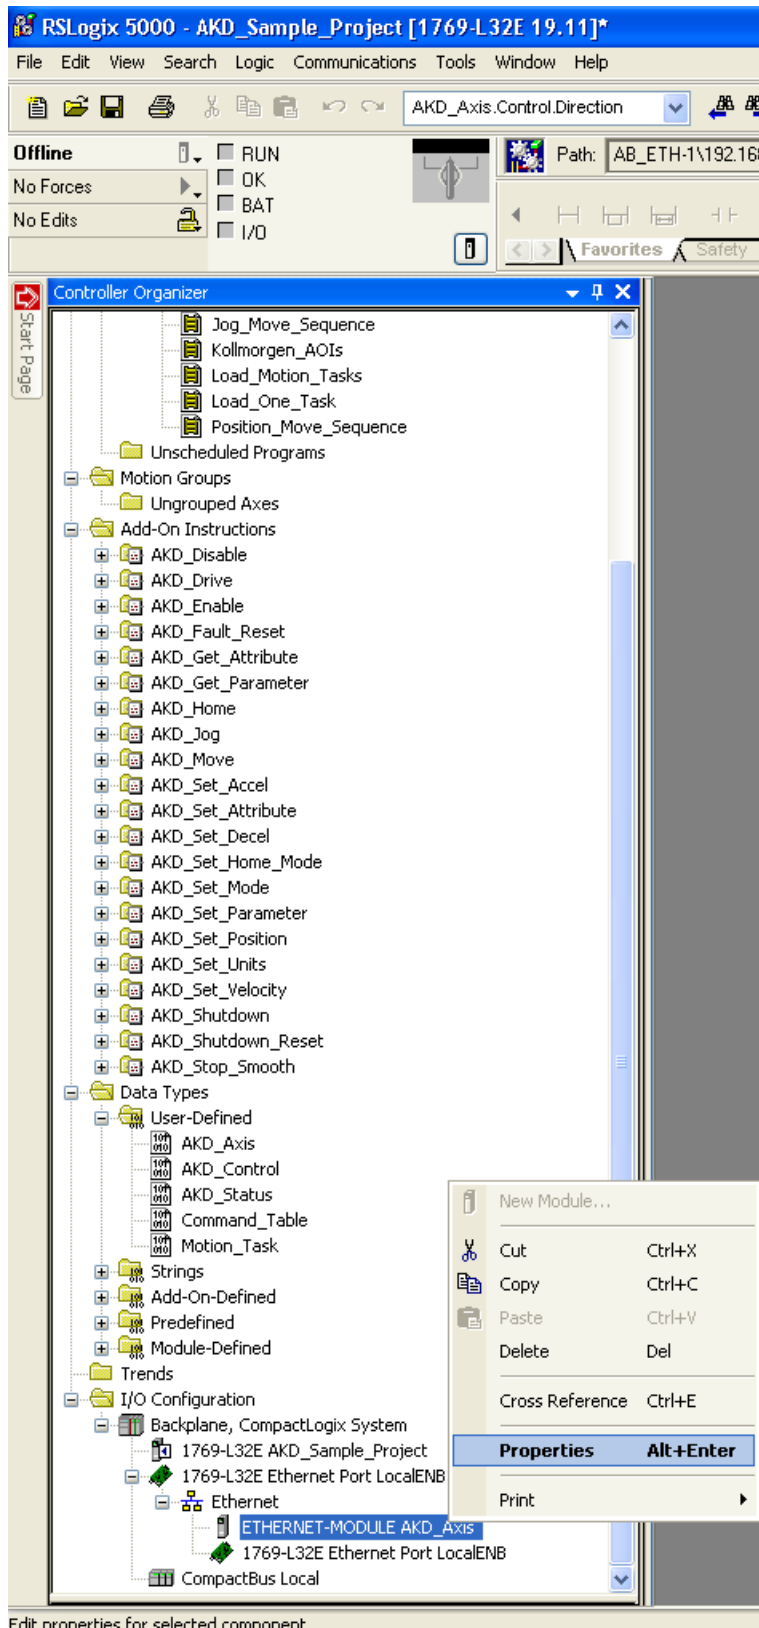

Figure 3-3: Opening Ethernet Module Properties
- Next, open the Ethernet-Module setup for the axis' communications by right clicking on "ETHERNET-MODULE AKD_Axis" in the "I/O Configuration" tree under the Ethernet port (Figure 3-3: Opening Ethernet Module Properties).